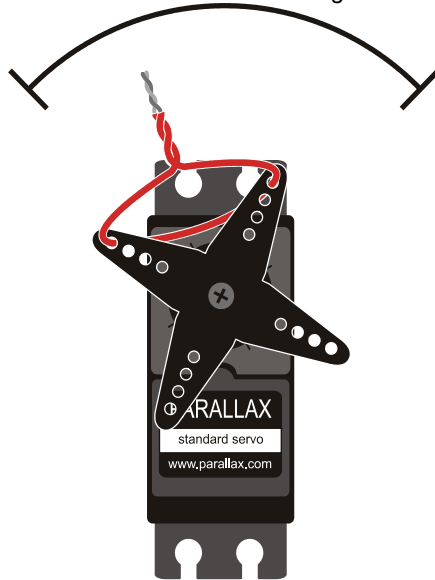

Figure 4-15
You can find the center of the servo's range of motion by gently rotating the horn to find its clockwise and counterclockwise mechanical limits. The half way position between these two limits is the center or 90° position. The servo's center position could fall anywhere in the region shown in Figure 4-15.
- ✓ With the servo horn in its center position, thread a jumper wire through the horn and twist tie it so that it points upward into the region shown in Figure 4-15.